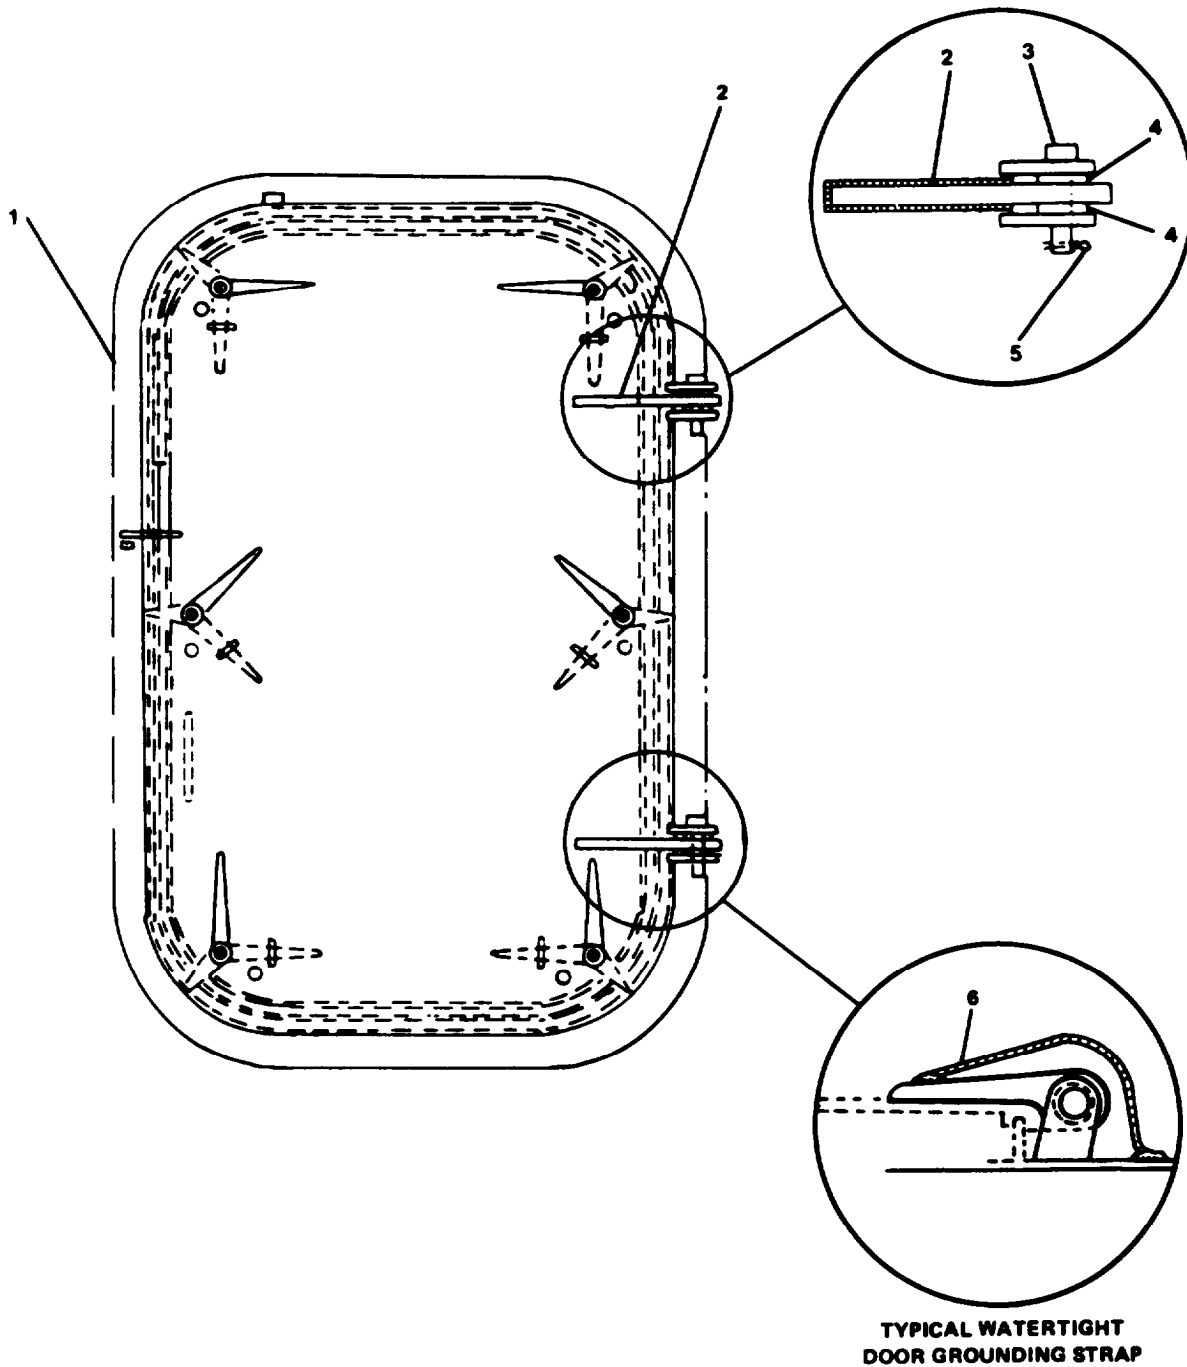

FIGURE 2-174. Replace Watertight Door, Six Dogs (30 x 60)
- a. Remove (if installed) grounding straps (6, FIGURE 2-174) from hinge blades (2) and from bulkhead.
- b. Open door (1).
- d. Install gasket (12) and gasket retainer (8) on door.
- e. Install pipe sleeve (9) and shim (10) on door.
- f. Install dog door closer (11) on door.
- g. Install preformed packing (4) and bronze bushings (5) on door.
- h. Install handles (7) on door.
- i. Secure handles using hex nuts (6).
- a. Place door (1, FIGURE 2-174) in position on frame.
- b. Install flat washers (4) and align holes.
- g. Install (if removed in step a of removal procedure) grounding straps (6, FIGURE 2-174) from hinge blades (2) and from bulkhead.